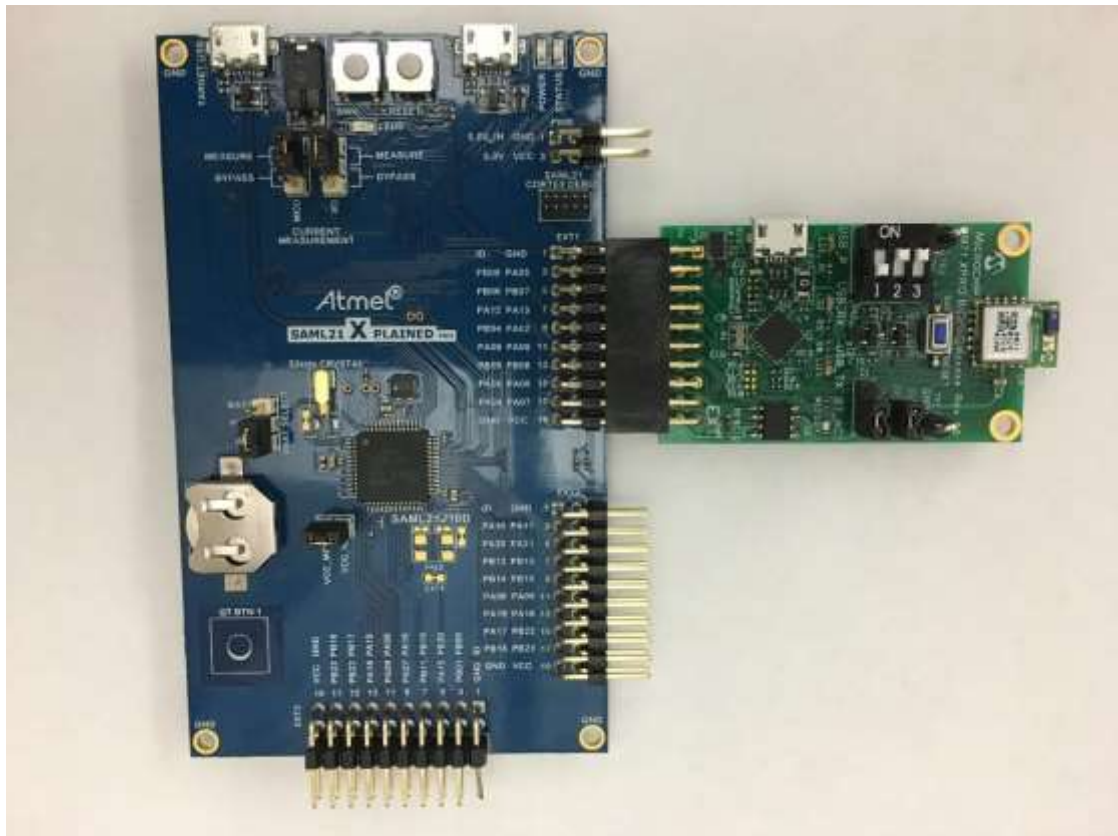

Figure 1: SAML21 Xplained Pro with BM71-XPro
1. Plugin the BM71-XPro board into EXT1 of SAML21 Xplained Pro board as shown in Figure 1.